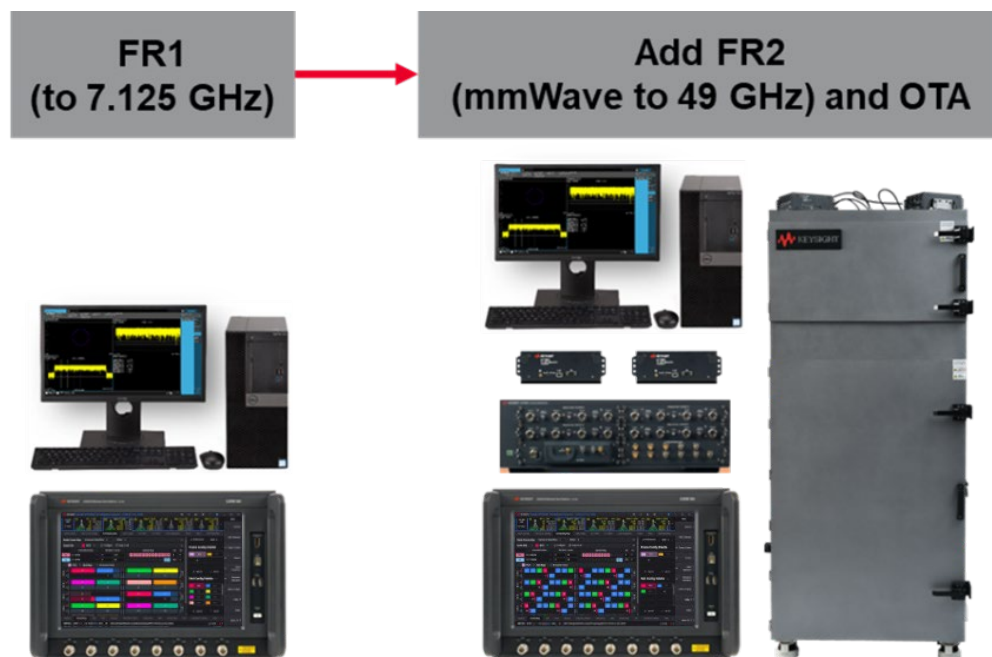

Figure 3. 5G NR FR2 mmWave test configuration
Devices that support mmWave (millimeter-wave) frequencies are complex and have integrated antenna arrays requiring OTA testing. To address these challenges, the test configuration includes a UXM 5G wireless test platform providing network emulation, a Common Interface Unit (CIU), and at least two Remote Radio Heads (RRH) to convert between intermediate and mmWave frequencies (Figure 3). Connect up to eight RRH to a CIU or use a CIU without an RRH to generate 6 to 12 GHz for Intermediate Frequency (IF) testing.